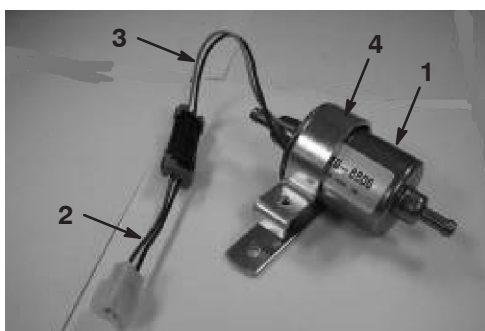

Figure 1
5. Insert the supplied bracket over the pump as shown figure 1.
6. Connect the electrical jumper wire to the new fuel pump wire harness (Fig. 1).